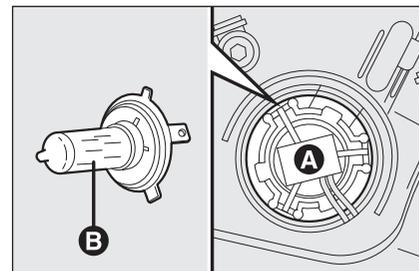

fig. 17
- press on the central electrical connector **A**-fig. 17 and withdraw the unit;